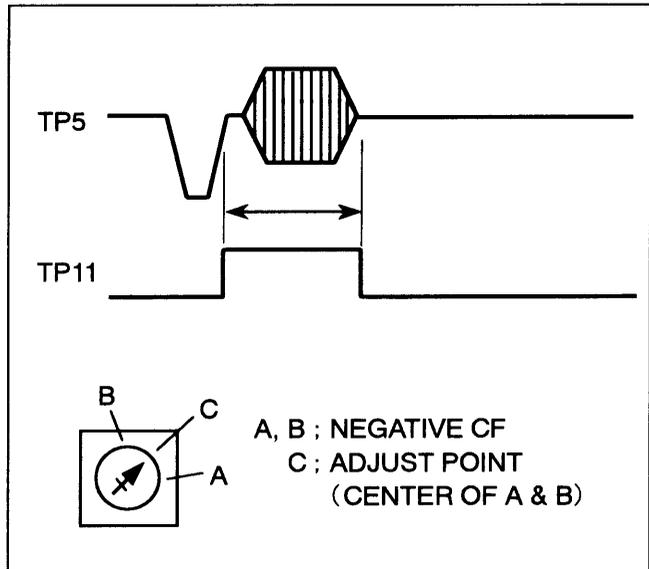

Figure 2
SPEC.	Refer to Figure 2
3. Adjust VR5 so that the phase of Color-bar signal and TP14 becomes same as shown in Figure 2.